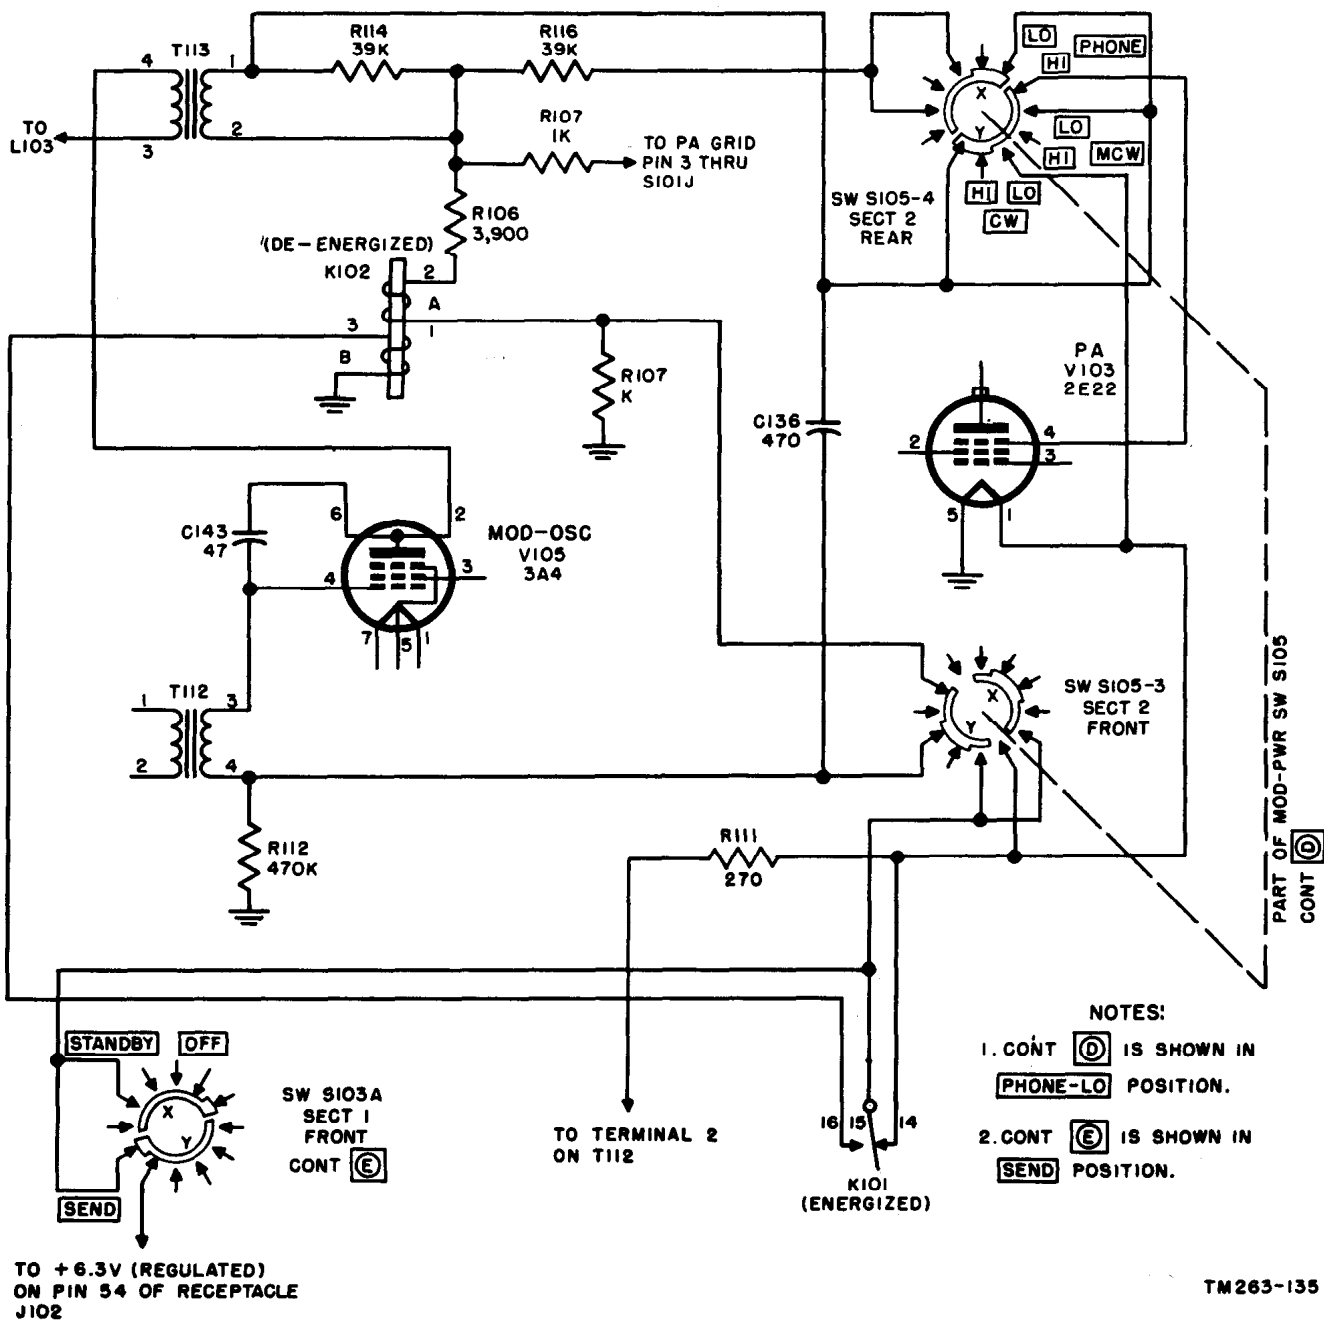
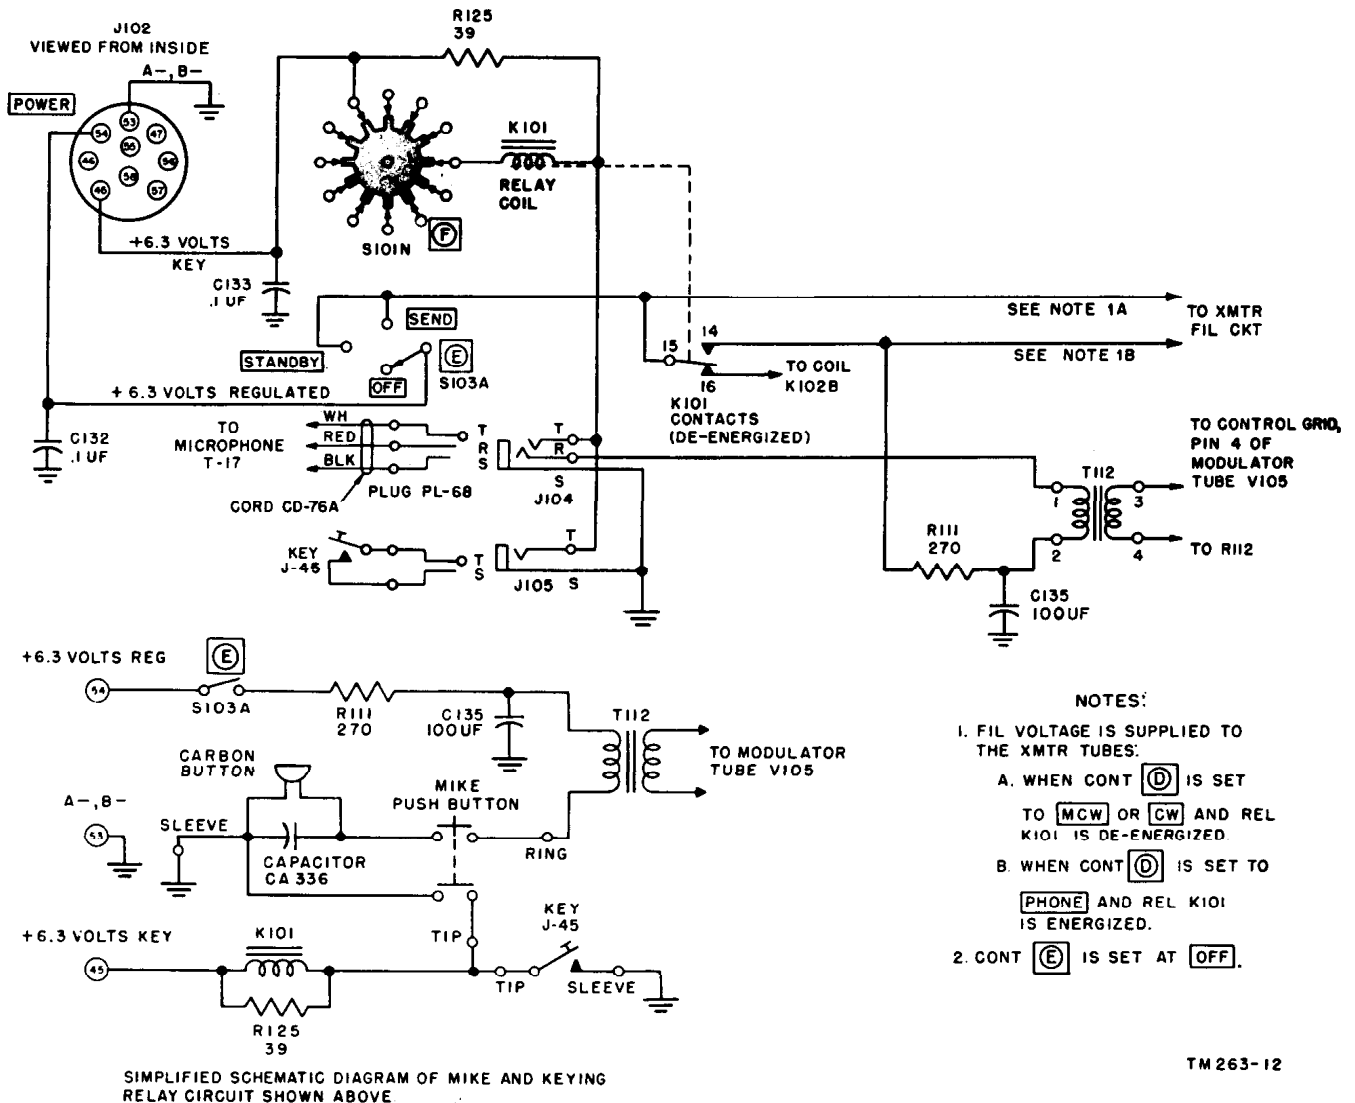
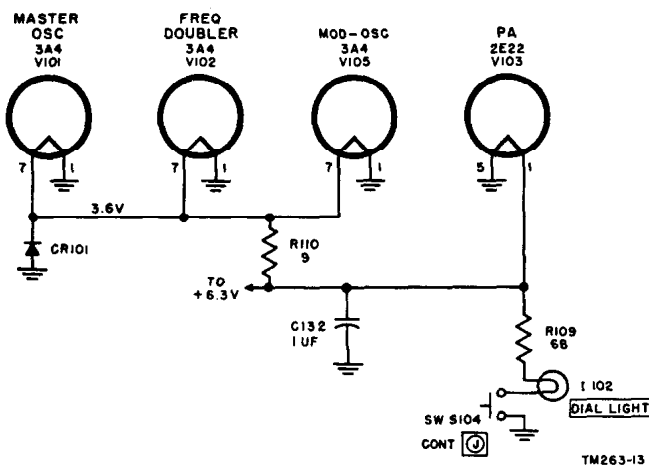
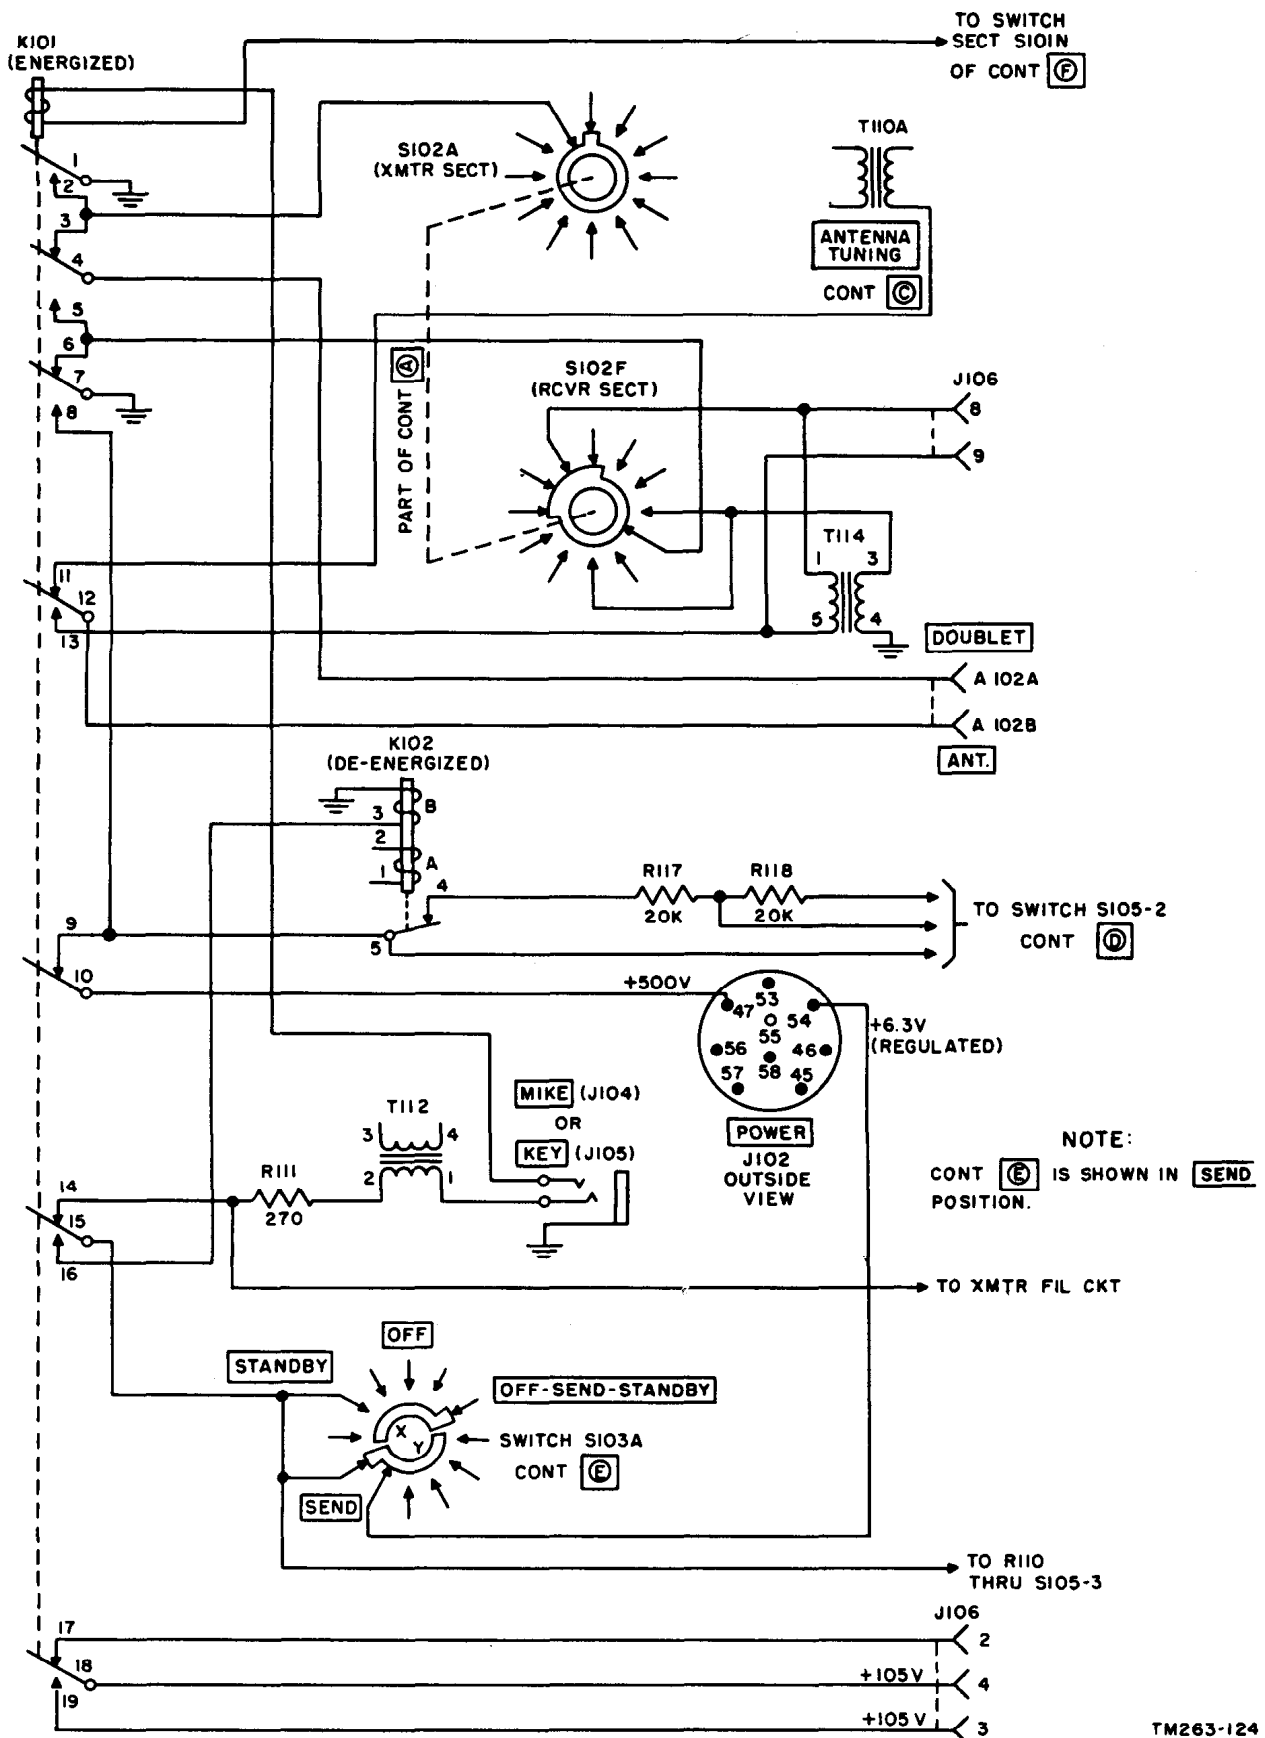

Figure 88. Modulation positions of S105, simplified schematic diagram.
Figure 89. Microphone and key connections.
Figure 90. Transmitter filaments, simplified schematic diagram.
Figure 92. Relay K101 contacts.
114. Modulation and Filament Switching Positions of Switch S105 (fig. 88)
115. Microphone and Key Connections (fig. 89)
b. For the microphone to perform its function, a dc current must flow in its circuit. The current enters the transmitter from pin 54 of receptacle J102 and flows through the SEND position of switch section S103A to contact 15 of relay K101, and switch section S105-3 (fig. 88). If S105 is in the CW or MCW position, the current will reach the microphone regardless of the position of the relay contacts. However, if S105-3 is in the PHONE position, the microphone can be energized only if relay contacts 15 and 14 are closed. From contact 14 of K101 or from the rotor of S105-3, the current goes through current limiting resistor R111 to
116. Transmitter Filament Circuit (fig. 90)
b. The transmitter filaments receive their voltage from pin 54 of receptacle J102 (fig. 89). The regulated 6.3-volt supply is fed to switch section S103A, control ⓑ, and from there to S105-3, control ⓓ, and also to contact 15 of keying relay K101. When control ⓓ is in the PHONE position (fig. 88), the tubes and the dial light can receive filament voltage only if contacts 15 and 14 of K101 close (fig. 92); which they do only when the key or microphone button is pressed. When control ⓓ is in the MCW and CW positions, the filaments receive voltage regardless of the position of the relay contacts (fig. 88).
119. Keying Relay K101 (fig. 92)
- (1) Contacts 1 and 2 open, disconnecting the ground from switch section S102A.
- (2) Contacts 3 and 4 close, connecting terminal A 102A to switch section S102A.
- (3) Contacts 6 and 7 close, connecting the receiver antenna-matching transformer T114 (through S102F) to ground.
- (4) Connects 11 and 12 close, connecting doublet terminal A102B to transmitter coil T110A.
c. When switch section S105-3, control ④ (fig. 88), is in the PHONE position only, the filaments of the transmitter tubes are off, unless the key or press-to-talk switch on the microphone is depressed. Contacts 14 and 15 close, connecting resistor R110 and filament pin 1 of tube V103 (fig. 90) to terminal 54 of receptacle J102, through switch section S103A.